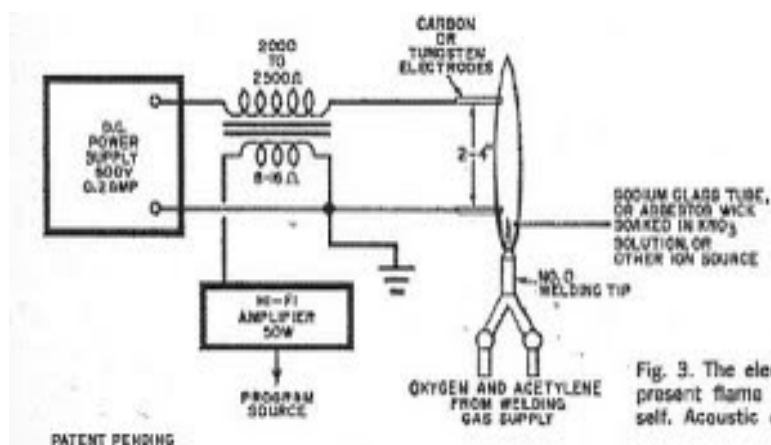

Fig. 3. The electrical arrangement of the present flame amplifier is simplicity itself. Acoustic output is omnidirectional.
**The Present UTC Setup.** Figure 3 shows the basic components and their hookup. The output of a Sony 365 tape recorder is fed to the input of a McIntosh 75-watt amplifier and the amplifier's output to the 8-ohm secondary winding of a reverse-connected power output transformer. A Hewlett-Packard Model 712-B (500 volts d.c. at 200 mA) power supply is connected through the transformer's primary winding to the two tungsten (or carbon) electrodes which, immersed in the flame, are spaced 2 to 4 inches apart. Neither the spacing of the electrodes nor their positioning within the flame zone is particularly critical.